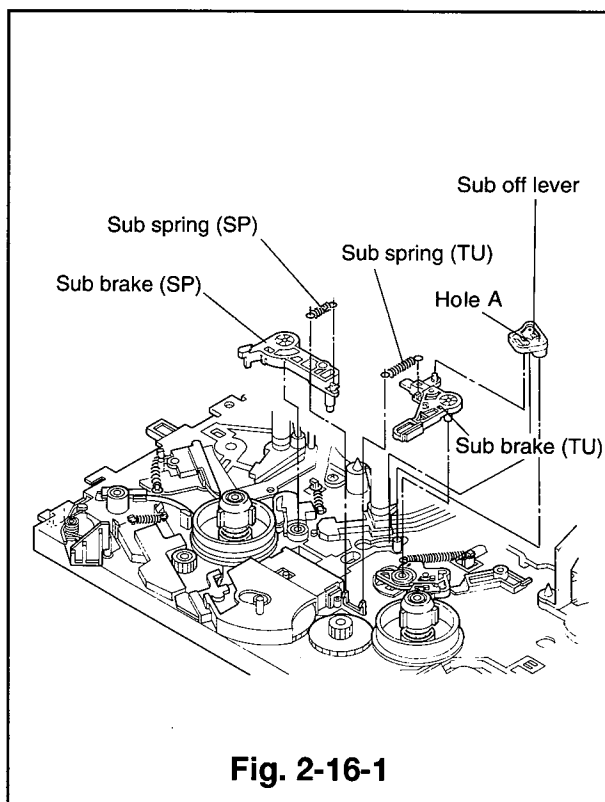
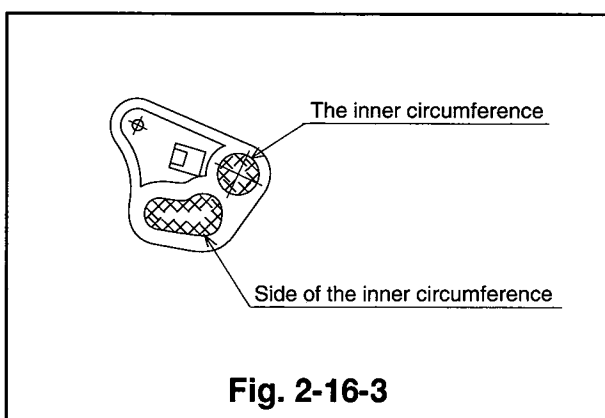

Fig. 2-16-1
Fig. 2-16-3
- ④ Remove the sub spring(TU). (Refer to Fig. 2-16-1.)
- ① Apply the grease(PG-641)[859D055O30] to the area shown in Fig. 2-16-3.
- ② Install the sub brake(TU) on the main plate.
- ③ Install the sub off lever so that the hole A aligns with the boss of the sub brake(TU) as shown in Fig. 2-16-1.
- ④ Install the sub spring(TU).
- ⑤ Install the sub brake(SP) and the sub spring(SP). (Refer to Para. 2-14 for the installation method.)
- ⑥ Install the cassette housing. (Refer to Para. 2-1 for the installation method.)